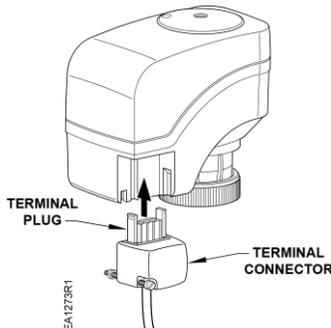

Figure 5. Insert Terminal Connector.
5. Place the terminal connector and plug into the actuator, fitting the nut into the recess in the bottom of the actuator. See Figure 5.